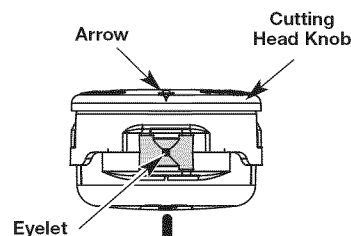

Fig. 16
1. Align the arrows on the cutting head knob with the outer spool eyelets, if they are not already. (Fig. 16)